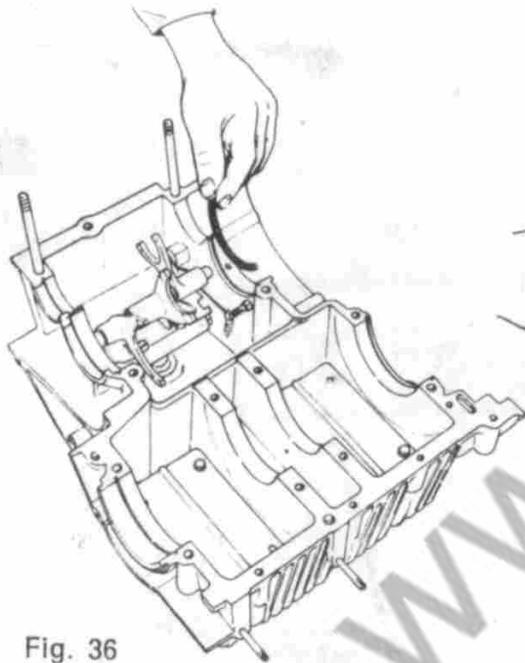

Fig. 36
- 2) Position the half rings locking the ball bearings in their places (Fig. 36).